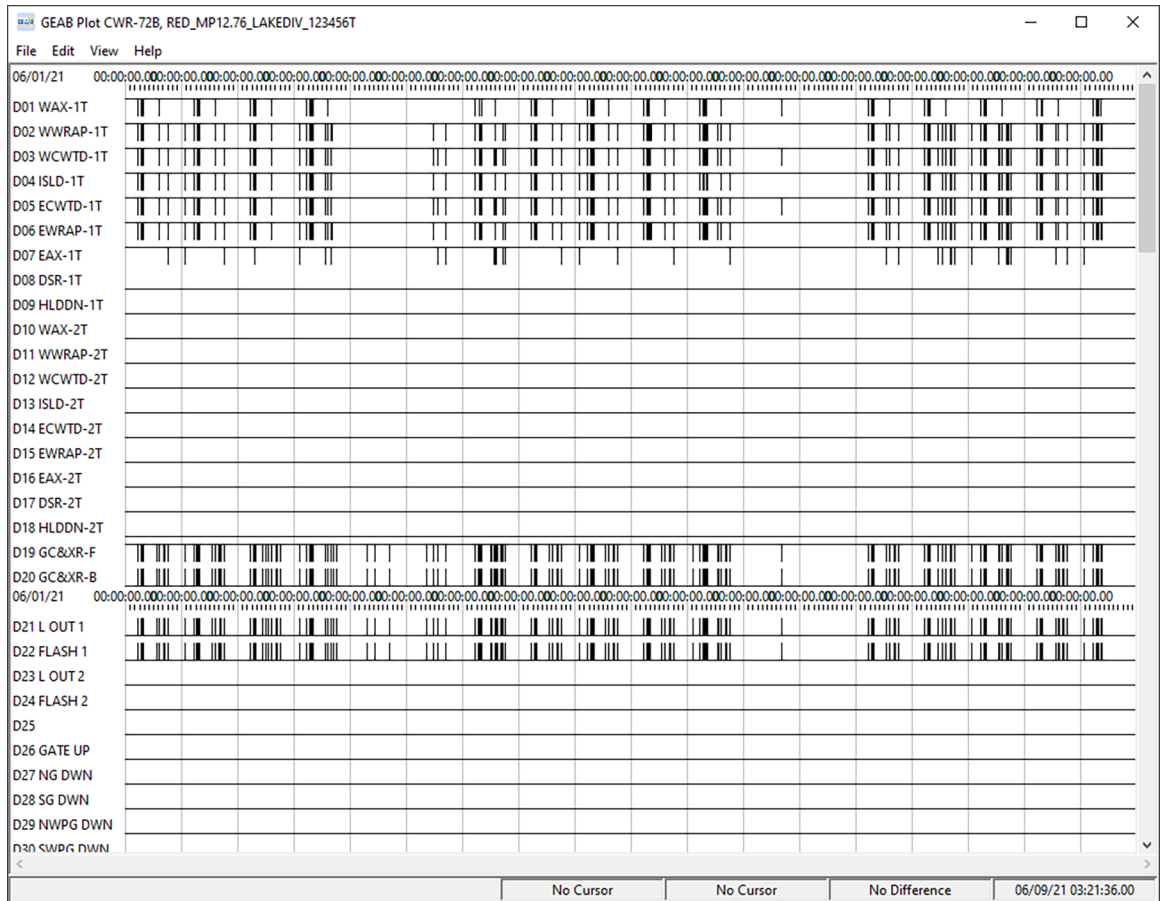
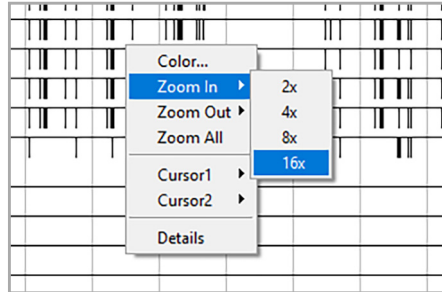
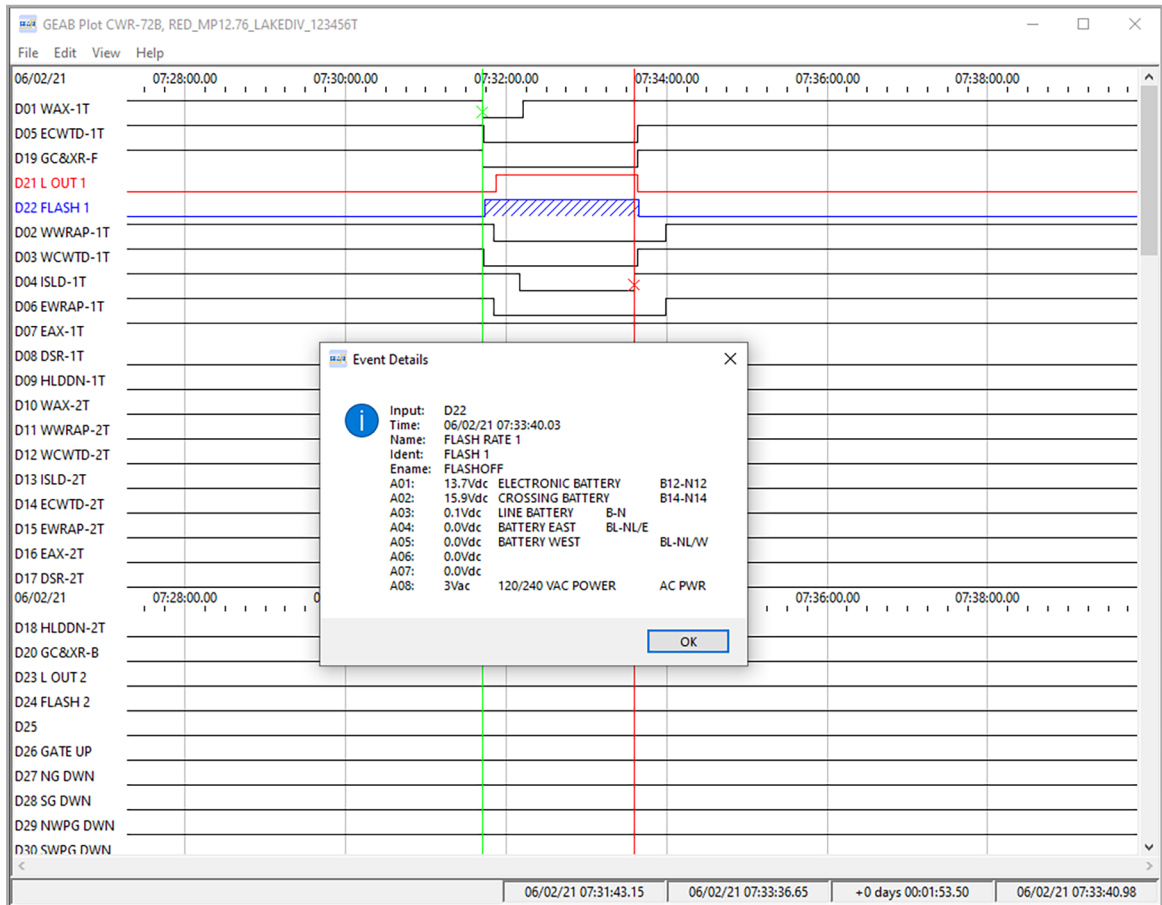

Figure 21: Plot Window - Initial View
Figure 22: Plot Window - Context Menu - Zoom In 16x
Figure 31: Plot Window - Event Record Details
The Plot Window shown in Figure 21 on page 32 contains a significant amount of data. However, for it to be useful the view will have to be changed. The following controls can be used for this purpose.
In Figure 22 on page 33 the context menu shown includes a command labeled **Zoom All**. Click this command to restore the Plot Window to its initial view as shown in Figure 21 on page 32. The Plot Window can also be restored to its initial view by clicking the **View > Zoom all** command from the Menu Bar.
The context menu shown in Figure 22 on page 33 also includes the **Color** command. Use this feature to highlight a specific plotted line. To do so perform the following steps.
In the initial Plot Window view Plot Items are assigned, from top to bottom, to Plotting Channels in the following sequence. Refer to Figure 21 on page 32.
2. Right-click the mouse. The context menu shown in Figure 22 on page 33 will be displayed. From the context menu click the **Cursor 1 >Set** command. A green vertical line will extend through the Plot Window. The event transition will be marked by a green **X** character.
4. Right-click the mouse. The context menu shown in Figure 22 on page 33 will be displayed. From the context menu click the **Cursor 2 >Set** command. A red vertical line will extend through the Plot Window. The event transition will be marked by a red **X** character.
- Right-click the mouse. The context menu shown in Figure 22 on page 33 will be displayed. From the context menu click the **Details** command. A dialog box that includes complete information about the event will be displayed. As can be seen in Figure 31 on page 39 the physical Input Number (**D22**), time stamp, Input Name (**FLASH RATE 1**), Input Identifier (**FLASH 1**) and Event Name (**FLASHOFF**) are listed. The measured level and state of each Analog Input is also reported.